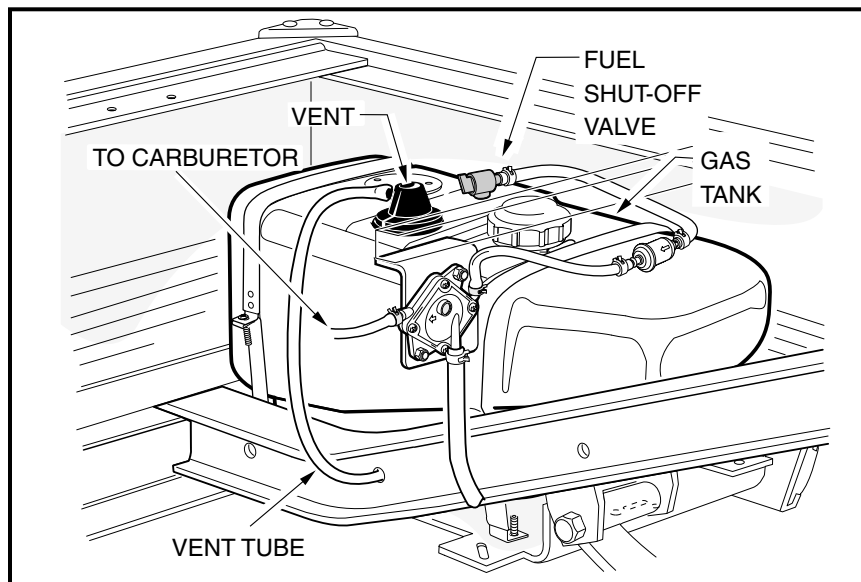
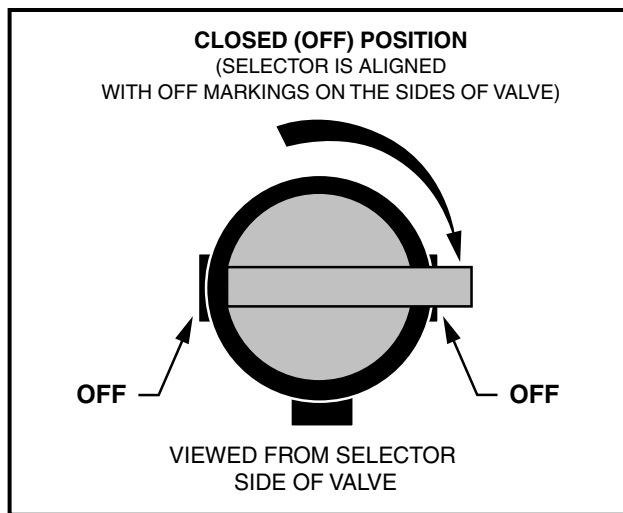

Figure 14-21 Fuel Tank
Figure 14-22 Closed Fuel Shut-off Valve
4. Turn fuel shut-off valve to the closed (OFF) position (**Figure 14-22, Page 14-31**).
The fuel shut-off valve is located on top of the fuel tank (**Figure 14-21, Page 14-30**). The fuel shut-off valve should always be turned to the closed (OFF) position during vehicle storage, towing or trailering (**Figure 14-22, Page 14-31**). The fuel shut-off valve should also be closed (OFF) before performing maintenance or service procedures unless the engine will be run as part of the procedure.